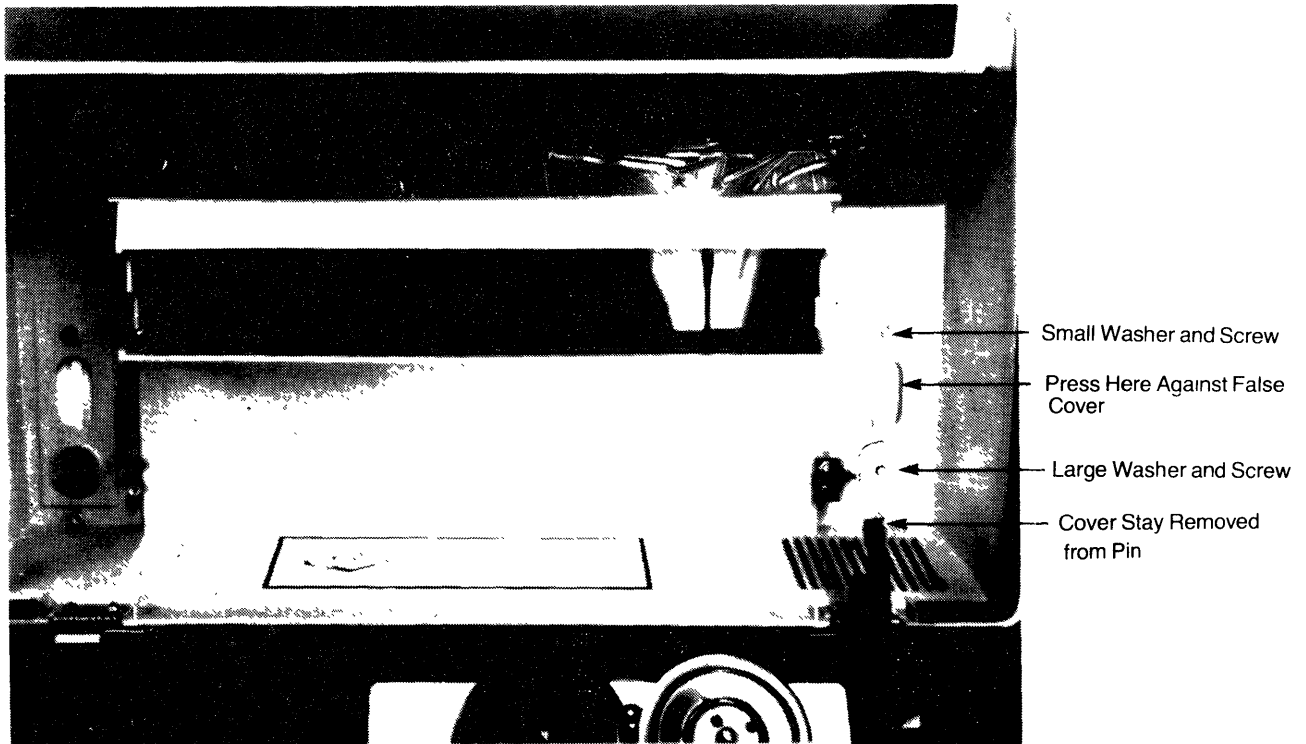

Figure 2. View Inside Terminal Cover
- (1) Lift up the terminal cover until the plastic stay at the inside right rear locks, holding the cover about 45 degrees from horizontal.
- (2) Holding the terminal cover in one hand, grasp the top of the plastic cover stay (see Figure 2) with the other hand and move the stay to the right until it clears the mounting pin.
- (3) The terminal cover now can be swung back on its hinges to rest, upside down, on a table top or other surface.
- (4) Lift the terminal cover so that it is approximately perpendicular to the table. Ask someone to hold the terminal cover in this position, or prop it with several books, blocks, etc.
- (5) Place the air exhaust cover over the outside of the 12 air vents in the right rear corner of the terminal cover. Hold in place with one hand while *starting* the three screws through the air vent slots into the three posts inside the air exhaust cover. *DO NOT tighten the three screws yet.*
- a. Lift the terminal cover and press against the inside of the left side “false cover” until it unsnaps. Repeat for the right side “false cover” (see Figure 2).